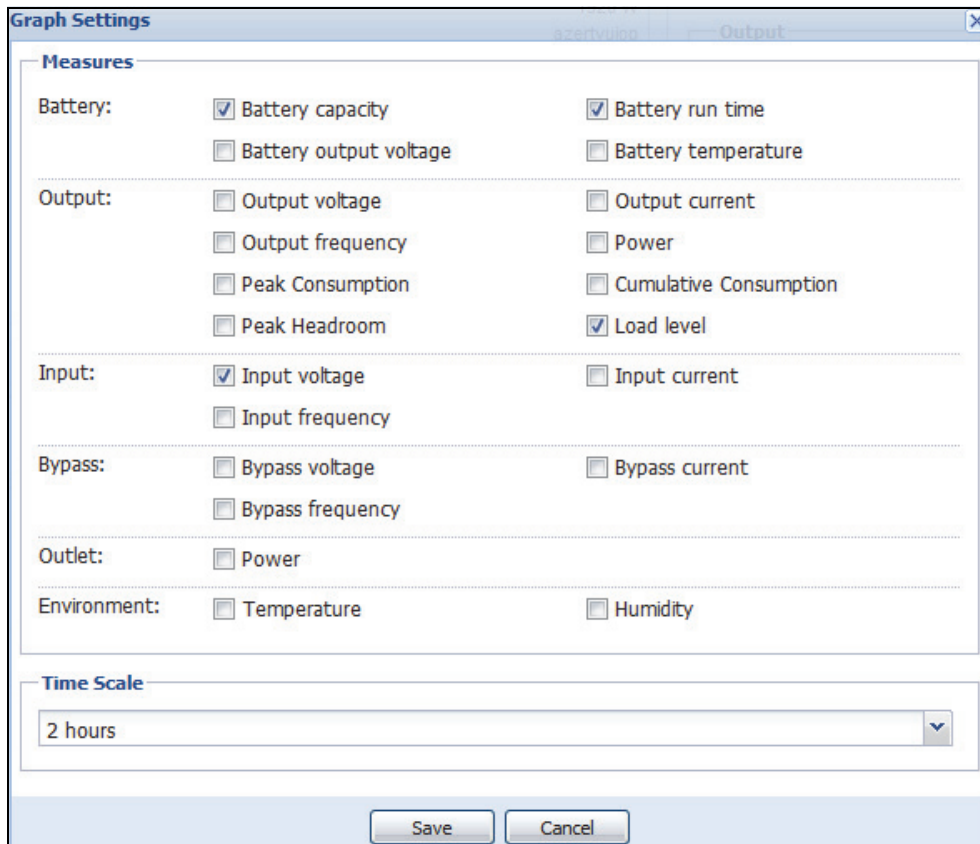

Figure 52. Graph Settings Dialog Box
- In the graph panel of power source view, several measurement data are displayed (see Figure 52.)